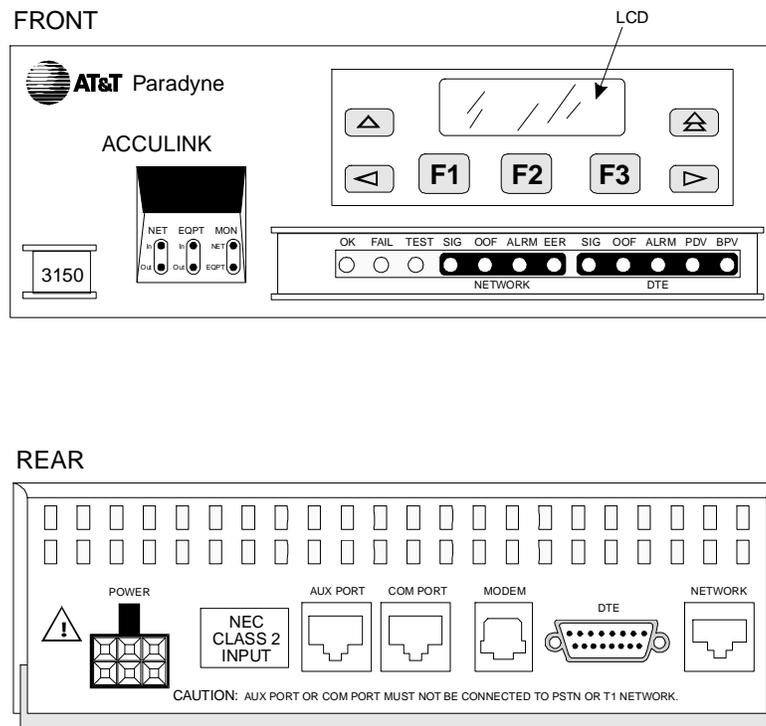

Figure 1-14. Front and Back Panel of the ACCULINK 3150 Channel Service Unit
1. Connect the 15-pin slide latch adapter cable to the DTE port of the CSU rear panel (Figure 1-14).
5. Connect the appropriate end of the T1 line interface cable to the NETWORK port on the rear panel of the CSU (Figure 1-14).